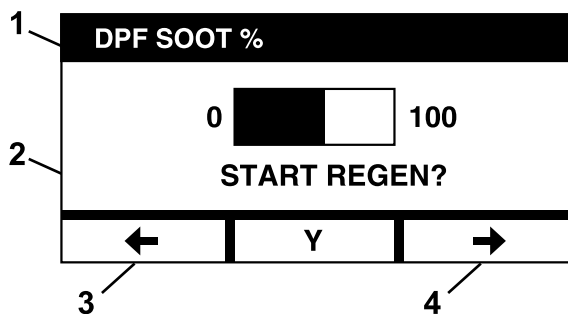

Figure 15
- E. Select Y (yes) from the Start Regen screen (Figure 15).